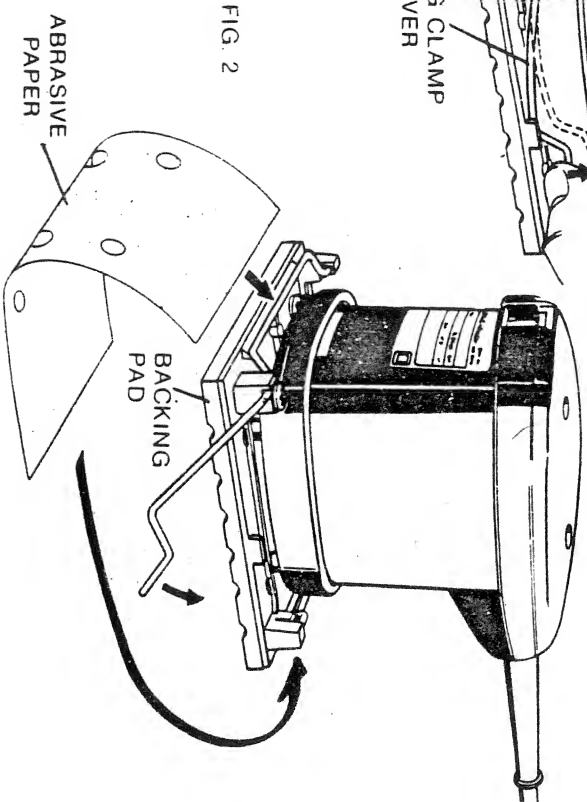

FIG. 2
- 3 Insert abrasive paper under the clamp, pull up on lever and lock into place. (Fig. 2)